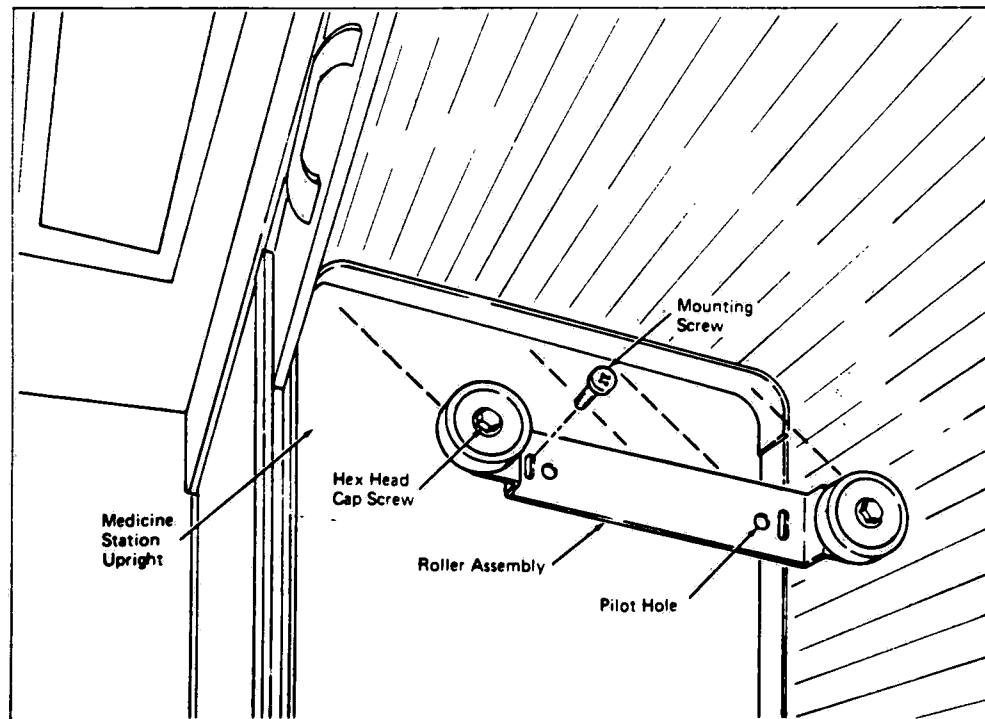

Figure 4-2. ROLLER INSTALLATION.
1. Hold each assembly in position as shown in Figure 4-2 and mark the location of the oval slots on the Station uprights.